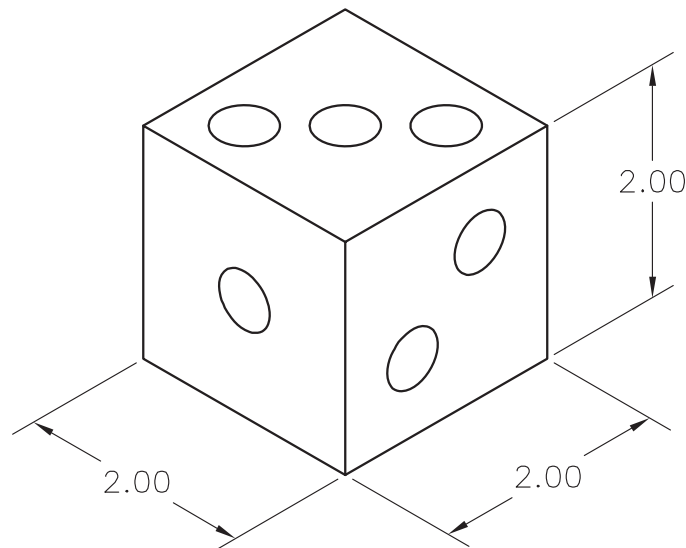

Fig. P8-1
1. Draw an isometric version of a die (one of two dice), as shown in Fig. P8-1. Include the spots, indicating values of one, two, and three on the three faces showing. Center the spots accurately, and make the length of each side 2" long. Dimension the length, height, and depth of the die.